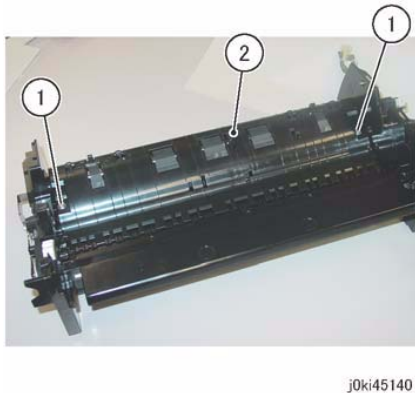

Figure 3 Invert Chute Removal
12. Remove the Invert Chute. (Figure 3)